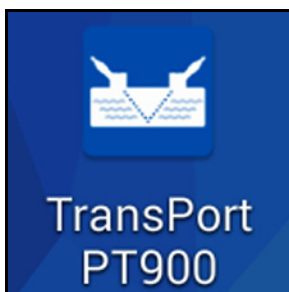

Figure 58: PT900 APP Icon
1. After the APP has been downloaded to your tablet, find the icon shown in *Figure 58* below on the tablet **APPS** and click on it to launch the APP.